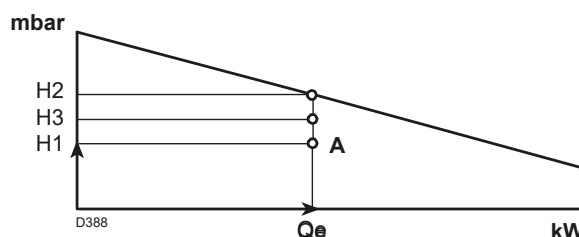

Fig. 3
- 4 Draw a vertical line from point A (Fig.3) of the graph, and calculate the maximum pressure H2 of the firing rate.